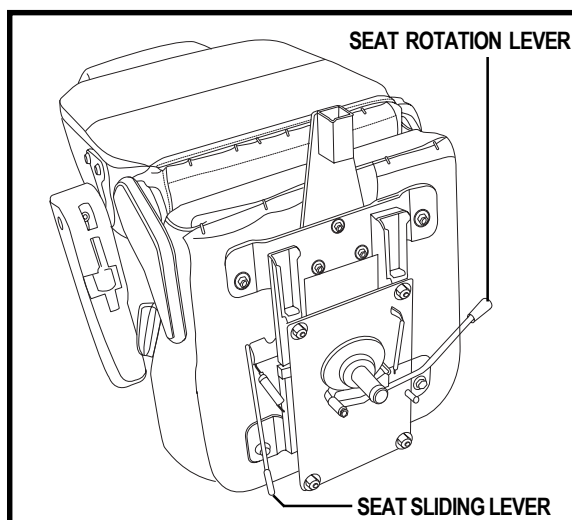

Figure 16A. Seat Adjustment Levers
1. Push forward on the seat rotation lever to unlock the seat. See figure 16A.
You can reposition the seat forward or rearward to adjust the distance between the seat and the tiller. See figure 16A.